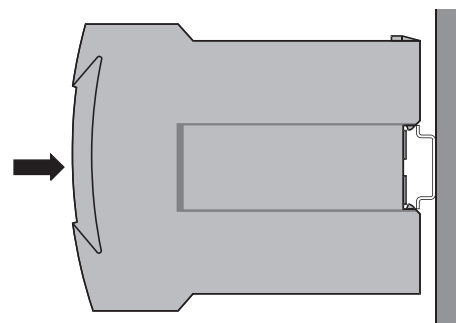

Fig 6 .Mounting on top-hat rails 35 x 15 or 35 x 7.5 mm.
Simply clip the device onto the top-hat rail (EN) (022 50 see Fig6 .)